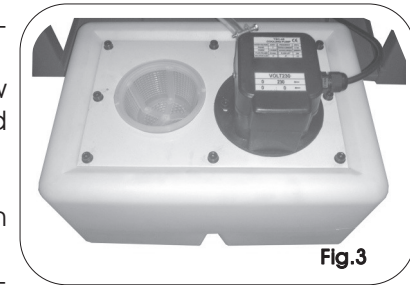

Fig.3
1. Slide the coolant tank out from the rear of the bandsaw (Fig.3).
4. Open the coolant tap (Page 11, ref. 28).
5. Turn the coolant switch on the control panel to on (I).